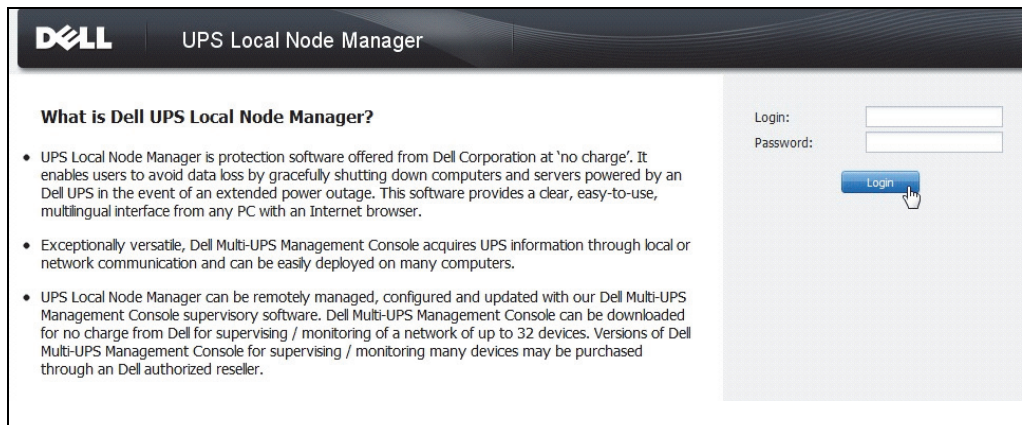

Figure 77. Login Page
- 2 Login (admin) / Password (admin) are default access entries. Type the login and password and click **Login** (see Figure 77).